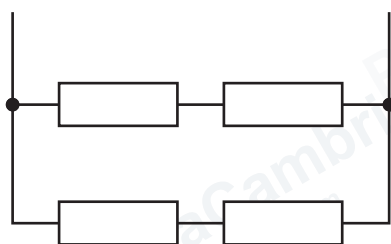

Figure 3.2
4. Resistor Network Y is to be set up for candidates as shown in Figure 3.2.
Check that Resistor Network Y is as shown in Figure 3.2 and check that it is labelled Resistor Network Y.